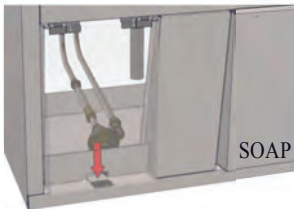

Fig. 24 - Push Down Knee Panel Door Latch
1. Open the knee panel door by depressing the latch at the bottom of the panel door (Fig. 24).